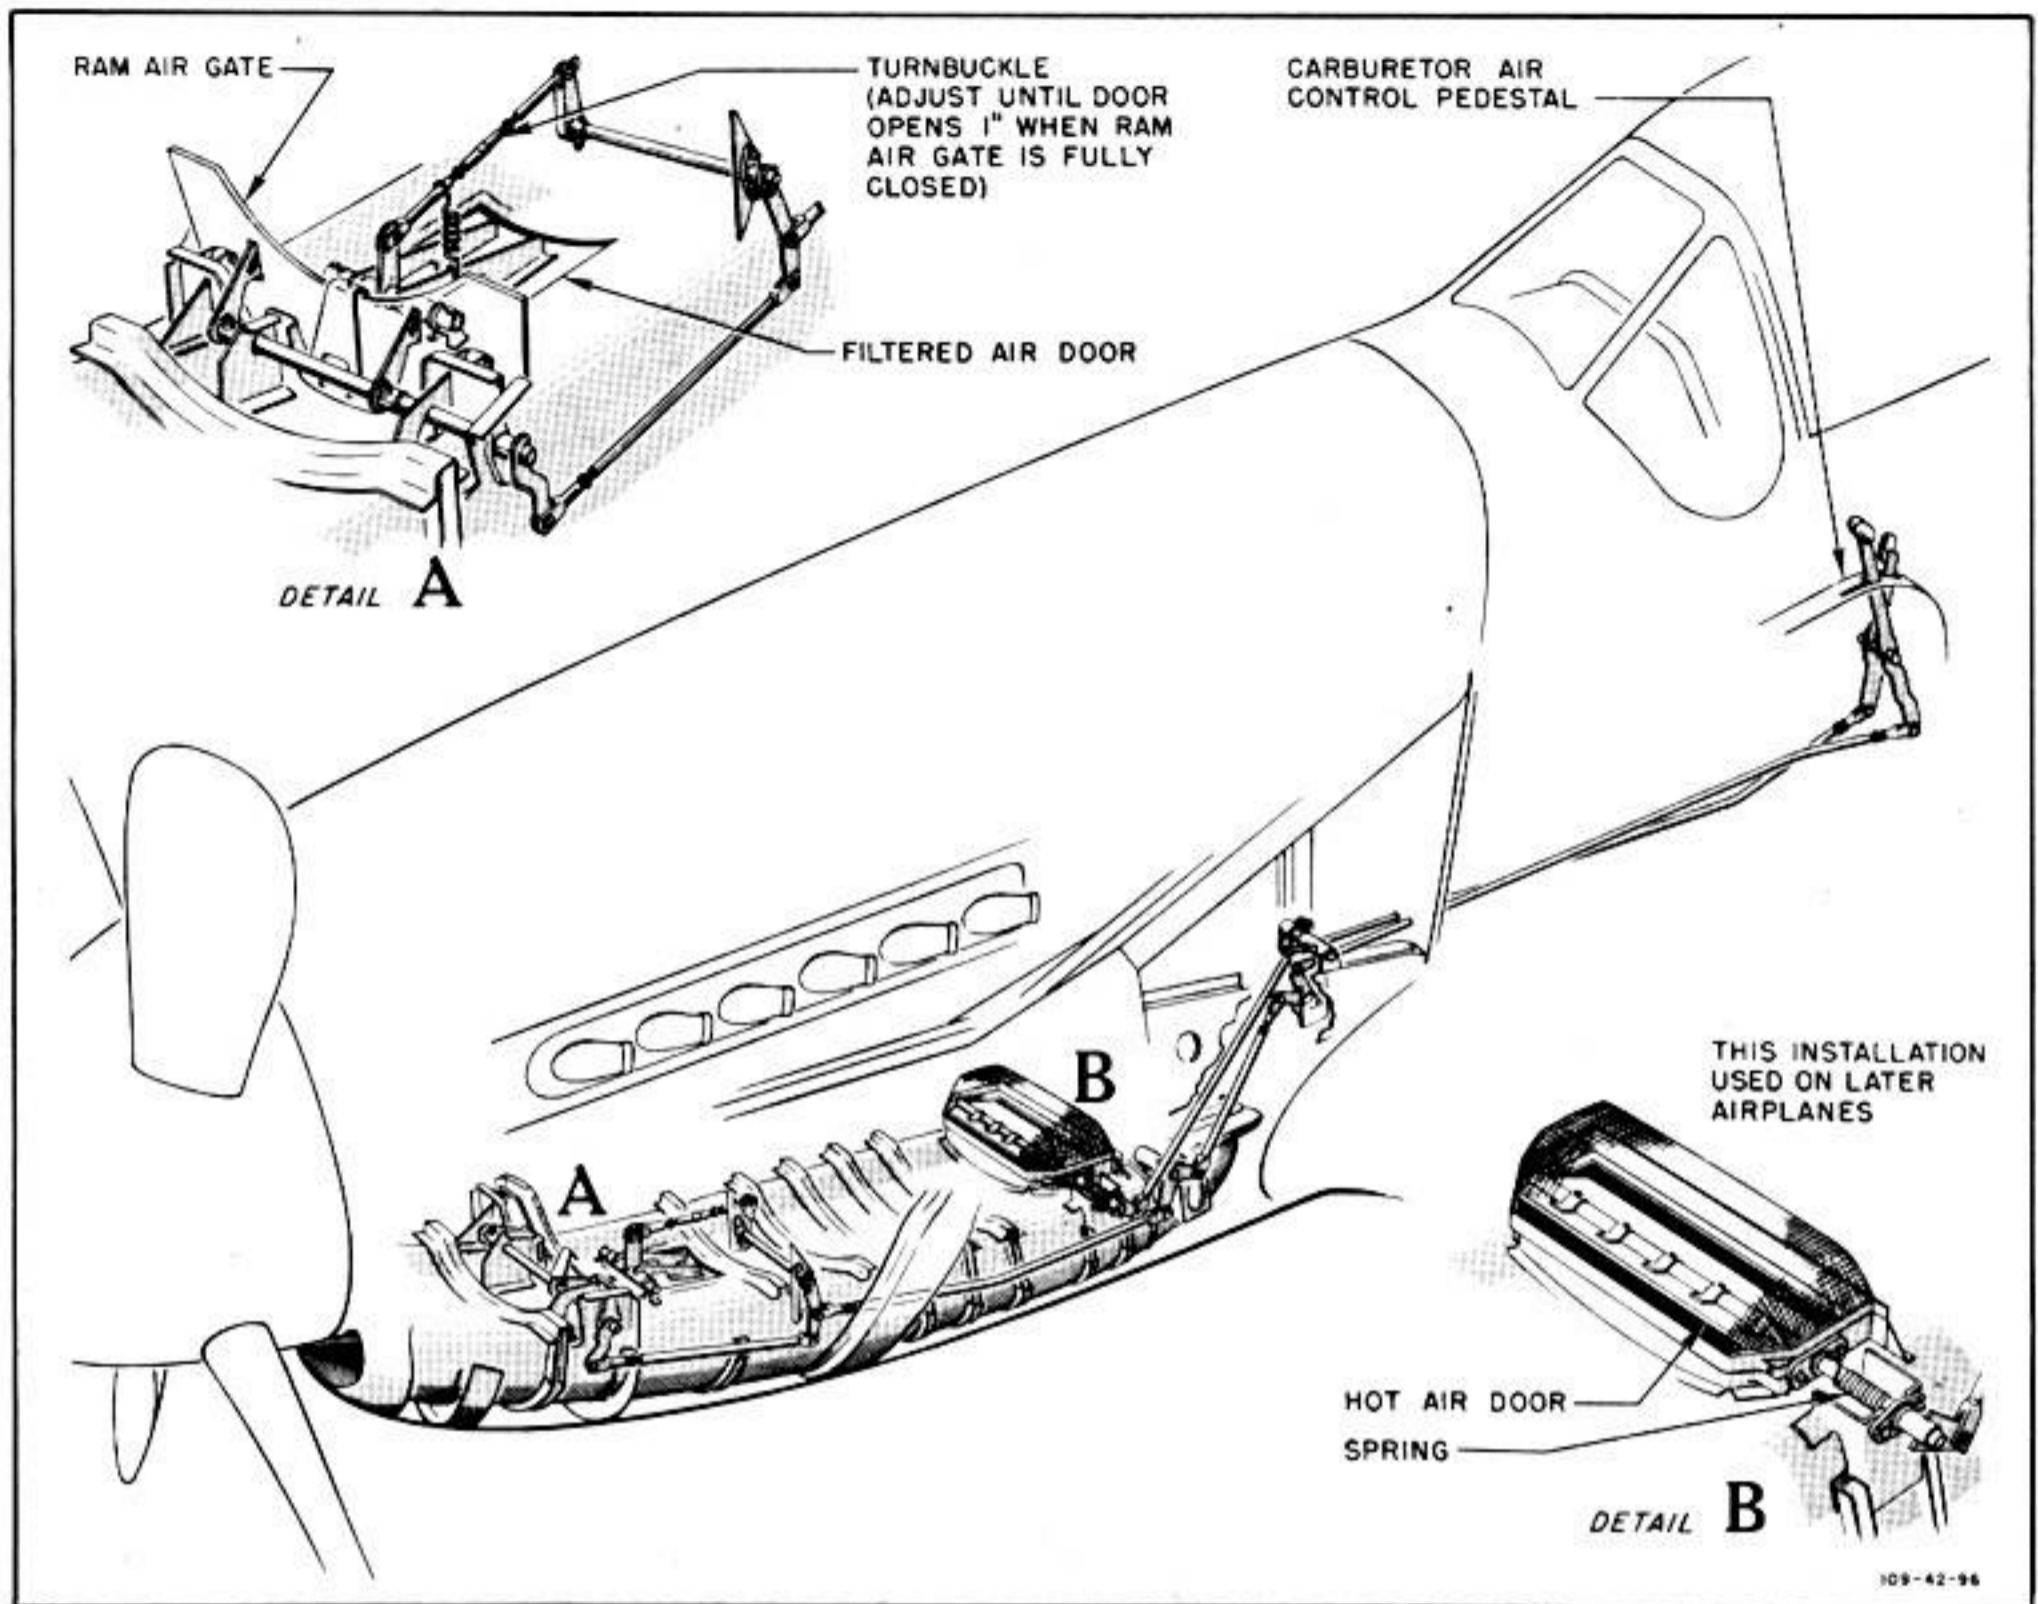

Figure 241—Carburetor Air Control System
(1) DESCRIPTION.—The carburetor air control is located on the control pedestal at the lower left side of the cockpit. (See figure 241.) Early airplanes have only a cold air control, with two positions: "RAM AIR" and "UNRAMMED FILTERED AIR." The control pedestal on later airplanes has an additional lever to open the hot air door in the carburetor air duct. This lever, when moved aft to the "HOT AIR" position, permits engine compartment air to enter the carburetor air duct, and when moved forward, permits the spring-loaded door to close.
(2) ADJUSTING CARBURETOR AIR CONTROLS.